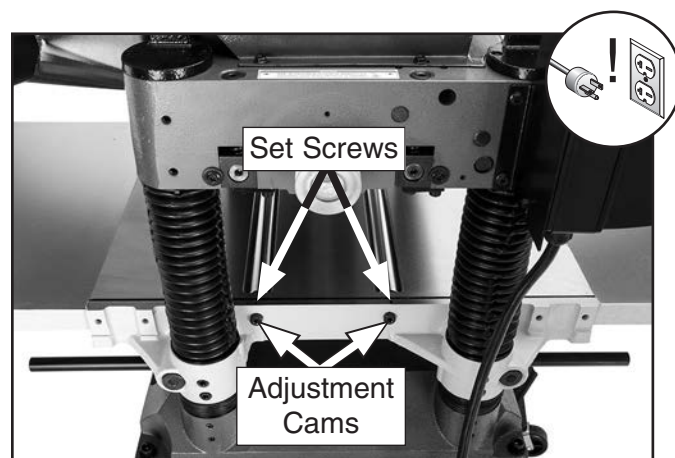

Figure 28. Bed roller height controls.
3. Loosen set screws (see **Figure 28**) above each of four roller adjustment cams (there are two on each side of planer).